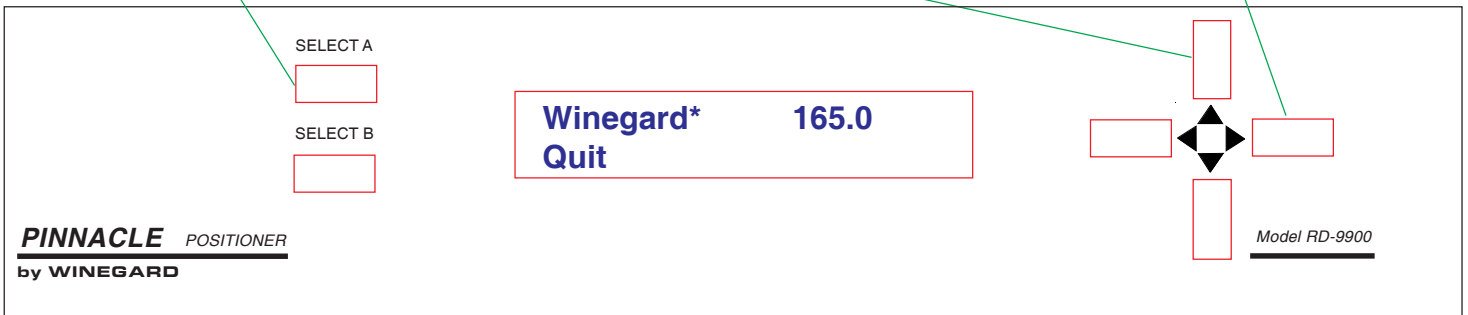

Figure 37
5. After entering satellite name, you must enter satellite location. This is usually expressed in so many degrees west (ex. the DSS satellites are located at 101° west). Your receiver manual or program provider should tell you the satellite position. To enter satellite position, press **[RIGHT]** arrow key until satellite name is no longer highlighted, see Figure 37. Press **[UP/DOWN]** arrow keys to scroll to correct number. Numbers will scroll in .5° increments. If satellite location is XX.3, scroll number to XX.5. If number is XX.2, scroll number to XX.0. Valid satellite locations are 60 to 165 degrees.
6. Press **[SELECT A]** to enter new satellite into positioner memory. See Figure 37. If you do not want to enter satellite into the memory press **[Quit]** to return to previous menu.